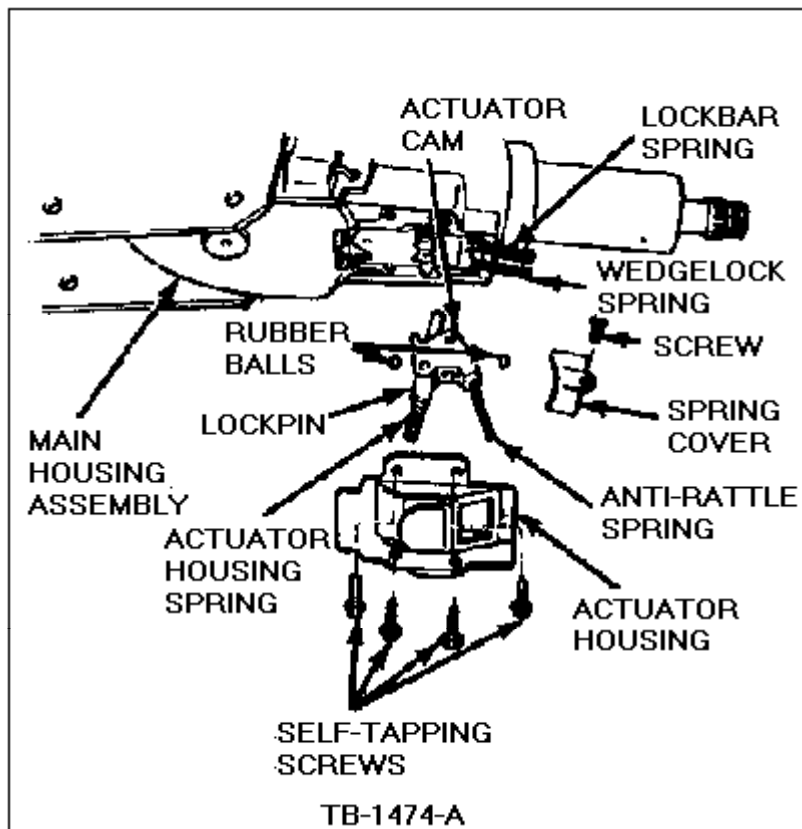

Figure 7 - Article 90-5-10
8. Remove the actuator housing, actuator housing spring, anti-rattle spring, two (2) rubber balls, actuator cam and pin assembly with the cam, lock pin and pivot pin, Figure 7.